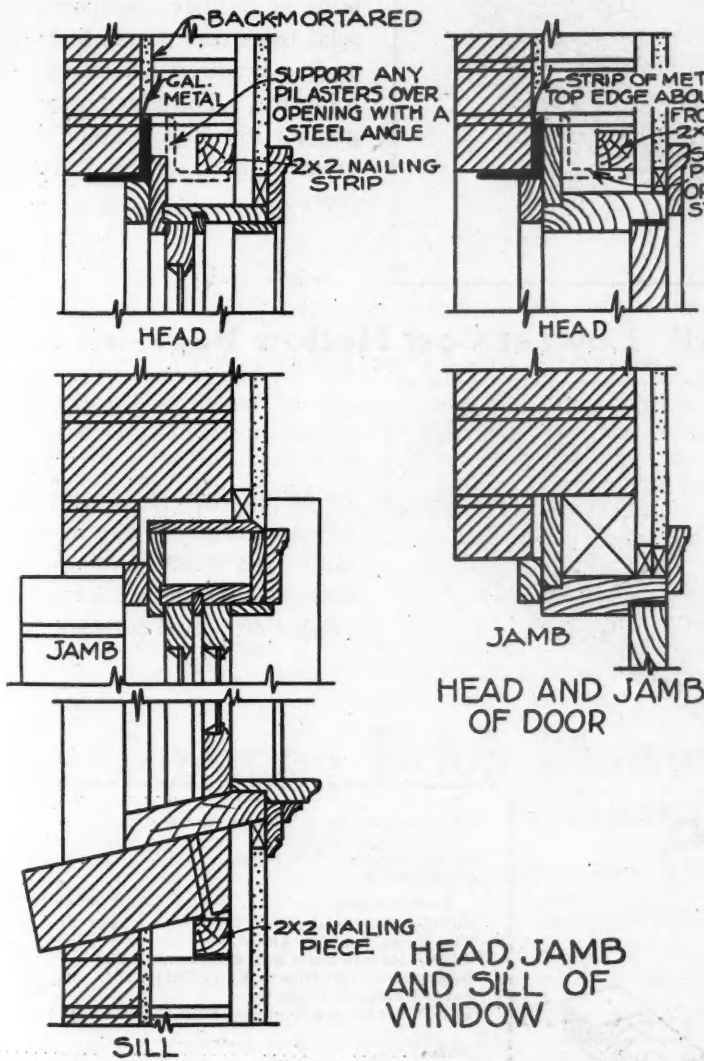

Fig. 5 Window and Door Frame Details.
22. To eliminate all danger of moisture condensing on the inside of the 4-inch wall and finding its way into the building, a piece of metal (galvanized metal is preferable) about $2\frac{1}{2}$ inches wide and the length of the window or door frame is used as shown in Fig. 5. The edge of the metal is placed between the vertical portion of the exterior steel angle lintel and the brickwork (or between the outside of the frame and the arch, if the outside 4 inches of brickwork is supported by an arch). The portion projecting on the inside of the wall is bent into a horizontal position until the back-mortaring is completed, after which it is bent up again with the top about $\frac{1}{2}$ inch away from the pilaster. In this position the metal strip will drain any condensation to the outside of the building.